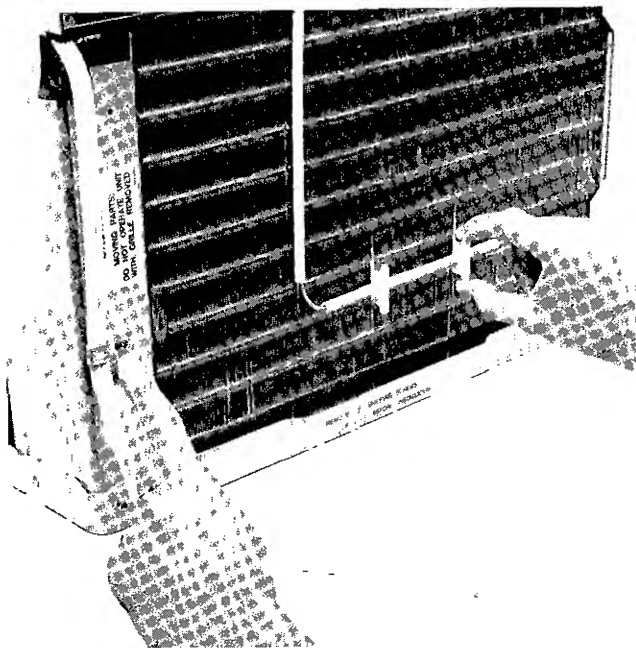

Fig 9 — Sensing Bulb and Service Cord Screws
- a Remove sensing bulb from coil See Fig 9
- b Remove service cord screw See Fig 9